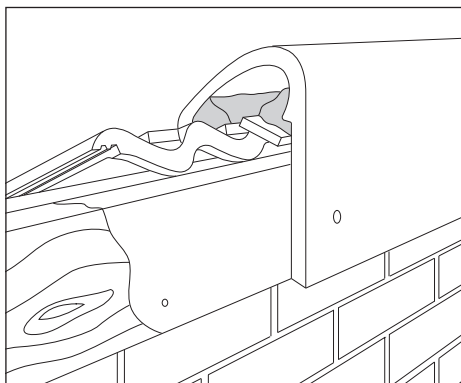

Fig. 22 – Bedded mono-ridge tile with two screw fixings (concrete)
- 2 Lay mono-ridge tiles for Interlocking profiles as standard ridge tiles and mechanically fix each by using 2 No. 50mm x 10g stainless steel screws (supplied) to timber fascia behind vertical leg (Fig. 22) (concrete mono-ridge tiles only).